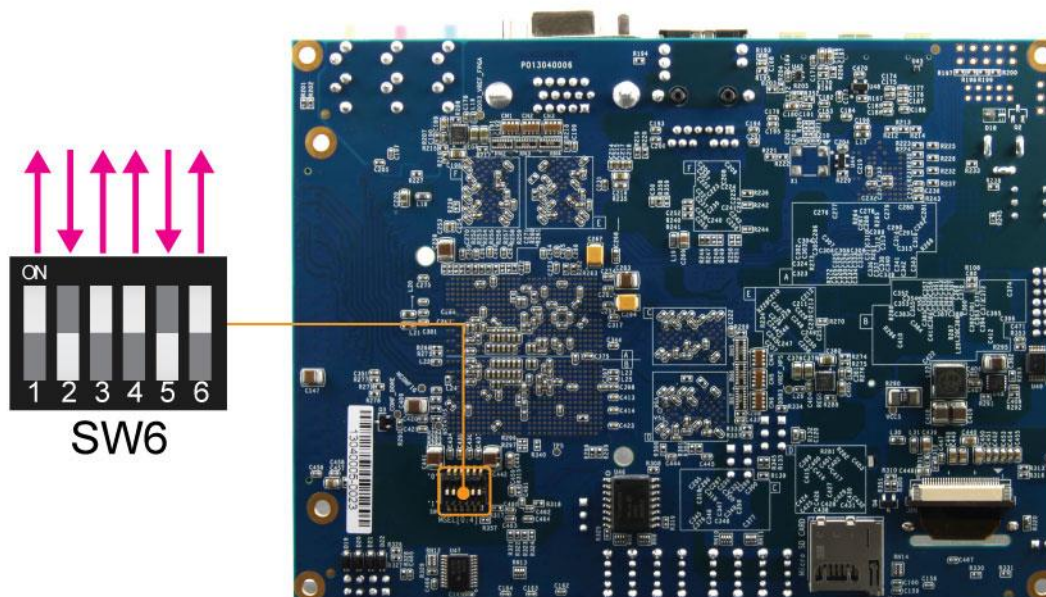

Figure 3-4 FPGA MSEL
- SW6 MSEL[4:0] = 10010 represents FPGA working in ASx4 mode(See Figure 3-4).